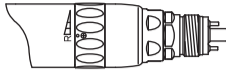

Fig. 4
- (2) Reverse Rotation : Turn the FWD/REV change ring to “R” as shown in Fig. 4.